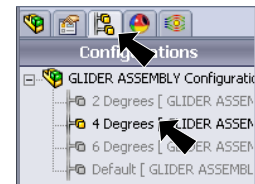

Fig. 52
Step 1. To access the configurations, click **Configurations Manger** tab in the Feature Manager, **Fig. 52**.
Step 2. **Double click** a configuration to select it, **Fig. 52**.